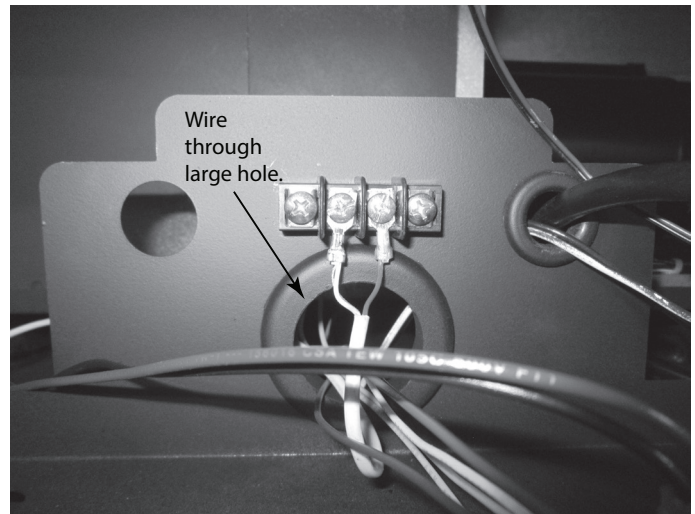

Figure 3.7
- Open the lower access panel on the front of the fireplace. Locate the end of the thermostat wire and run it in through from the back of the large hole and up to and attach it to the terminal block. See Figure 3.7.